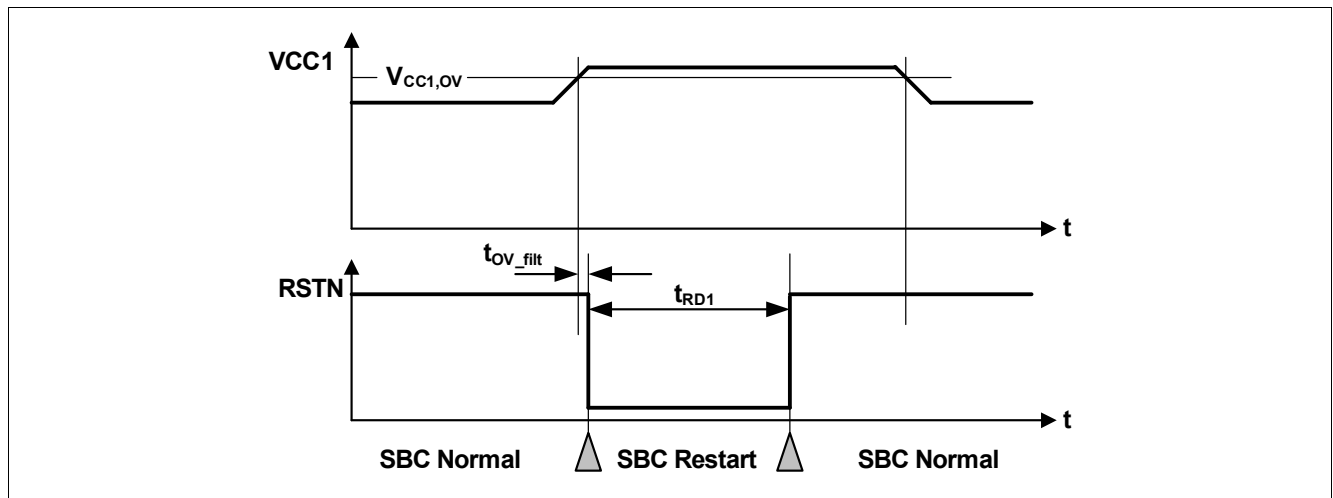

Figure 43 VCC1 Over Voltage Timing Diagram
- If the bit **VCC1\_OV\_RST** is set and **CFG0\_STATE** = '1', then SBC Restart Mode is entered. The FO output is activated. After the reset delay time ( $t_{RD1}$ ), the SBC Restart Mode is left and SBC Normal Mode is resumed even if the VCC1 over voltage event is still present (see also **Figure 43**). The **VCC1\_OV\_RST** bit is cleared automatically;